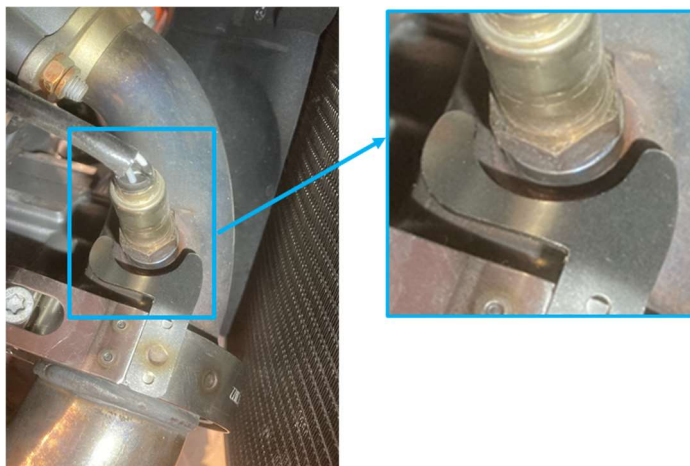

Fig. 5 – Position of V-clamp D=70.1
5. Fit the V-clamp D=70.1 (#61705058200) so that the anti-rotation device does not touch the flange of the lambda sensor, see Fig. 5.